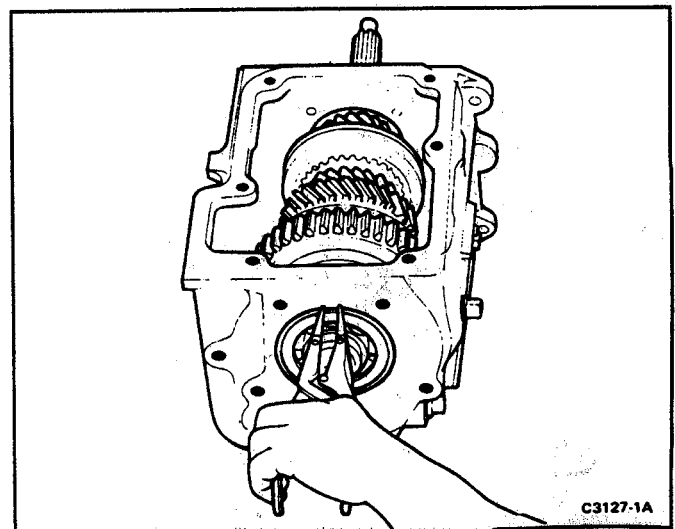

FIG. 5 Removing Output Shaft Bearing Snap Ring
6. Remove the output shaft bearing snap ring retainers from the output shaft and from the bearing, (Fig. 5). Remove bearing spacer.